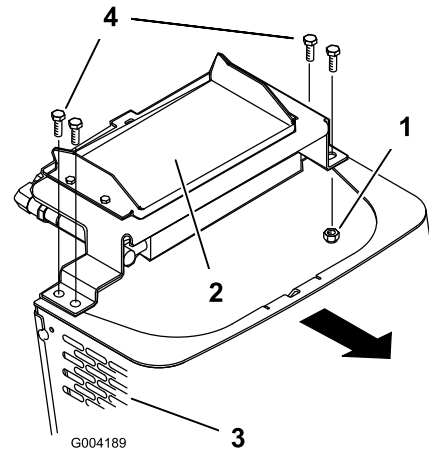

Figure 28
6. Remove the shoulder bolts and nuts securing the oil cooler to the top of the front screen (Figure 28).